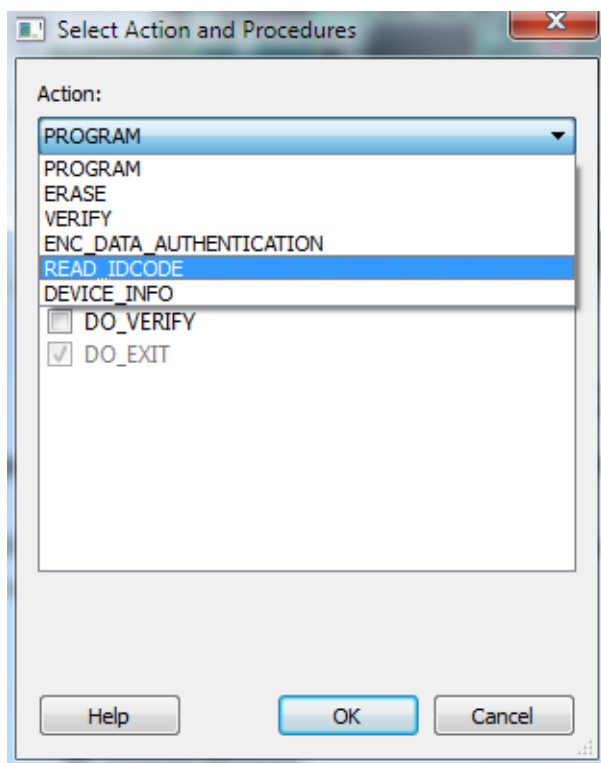

Figure 15 • Select Action and Procedures Window
- Right-click on **Run PROGRAM Action** and select **Configure Action/Procedures**. Figure 15 shows **Select Action and Procedures Window**.